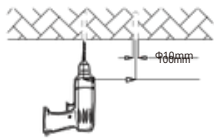

Figure 3
- Step1. Mark with a mark pen or sharp tool on the mounting surface and drill. (Figure 3)